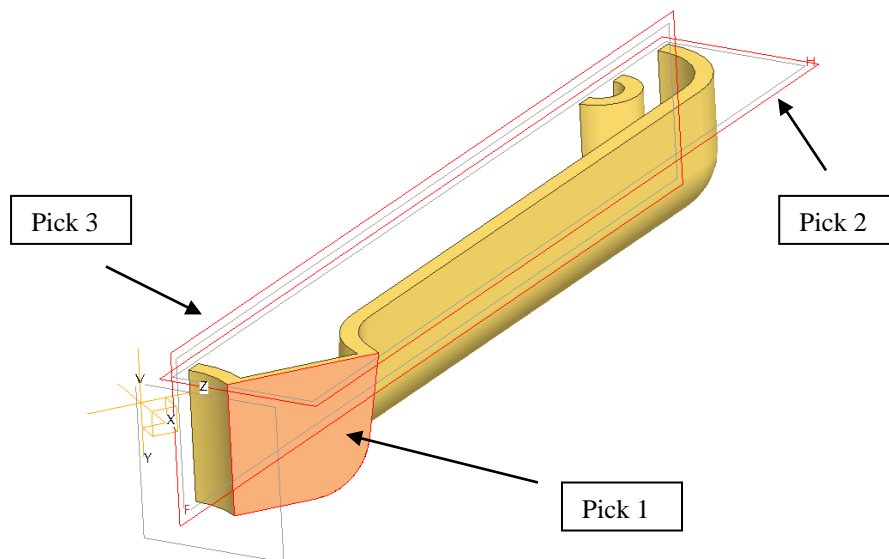

Figure 15 – Defining the Coordinate System
- Choose **Refine Model > Datum > Coordinate System**. The coordinate system dialog is displayed. This is an “intelligent” dialog – it will try and make sense of what you select. Click on the 3 surfaces/datums now in the order shown in Figure 15. Notice the new yellow coordinate system icon – the X direction is at right angles to the first surface you picked and this is the direction which we will constrain. In the properties tab type the name **Angled**. Click **OK** to close the dialog and Angled should appear in the model tree under Simulation Features.